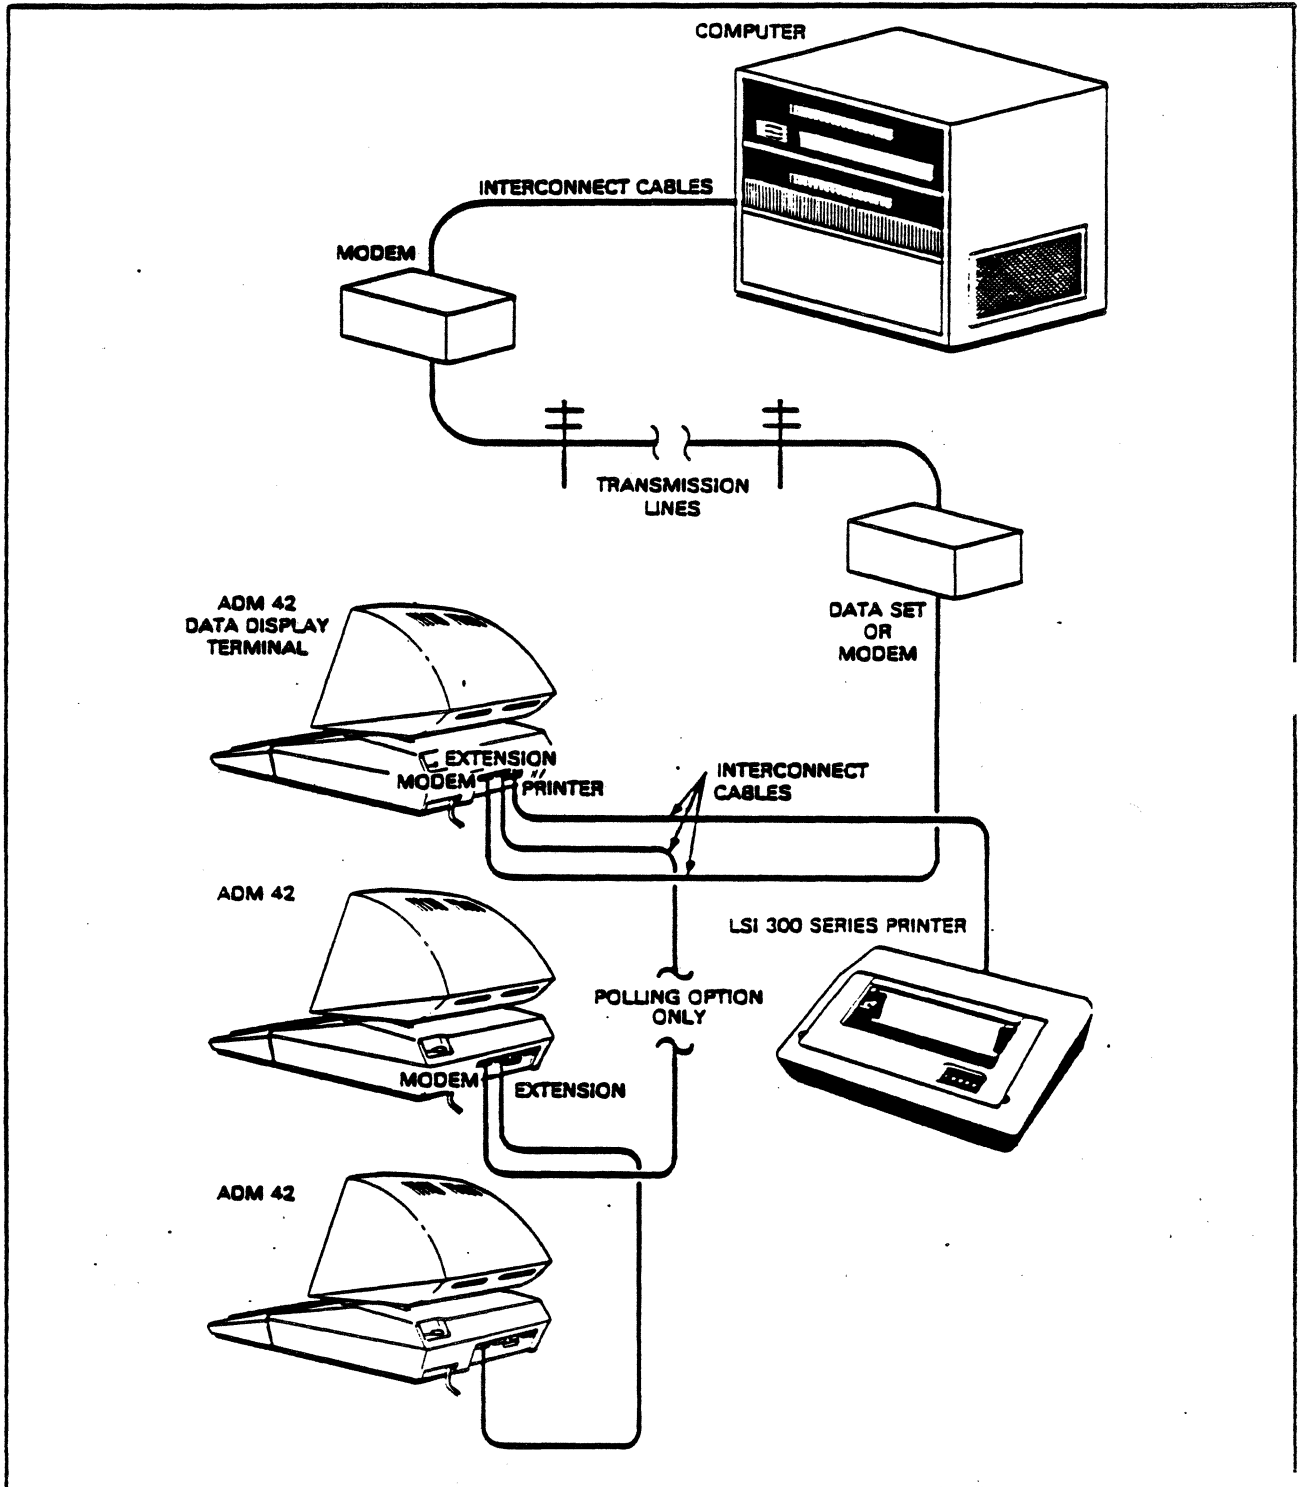
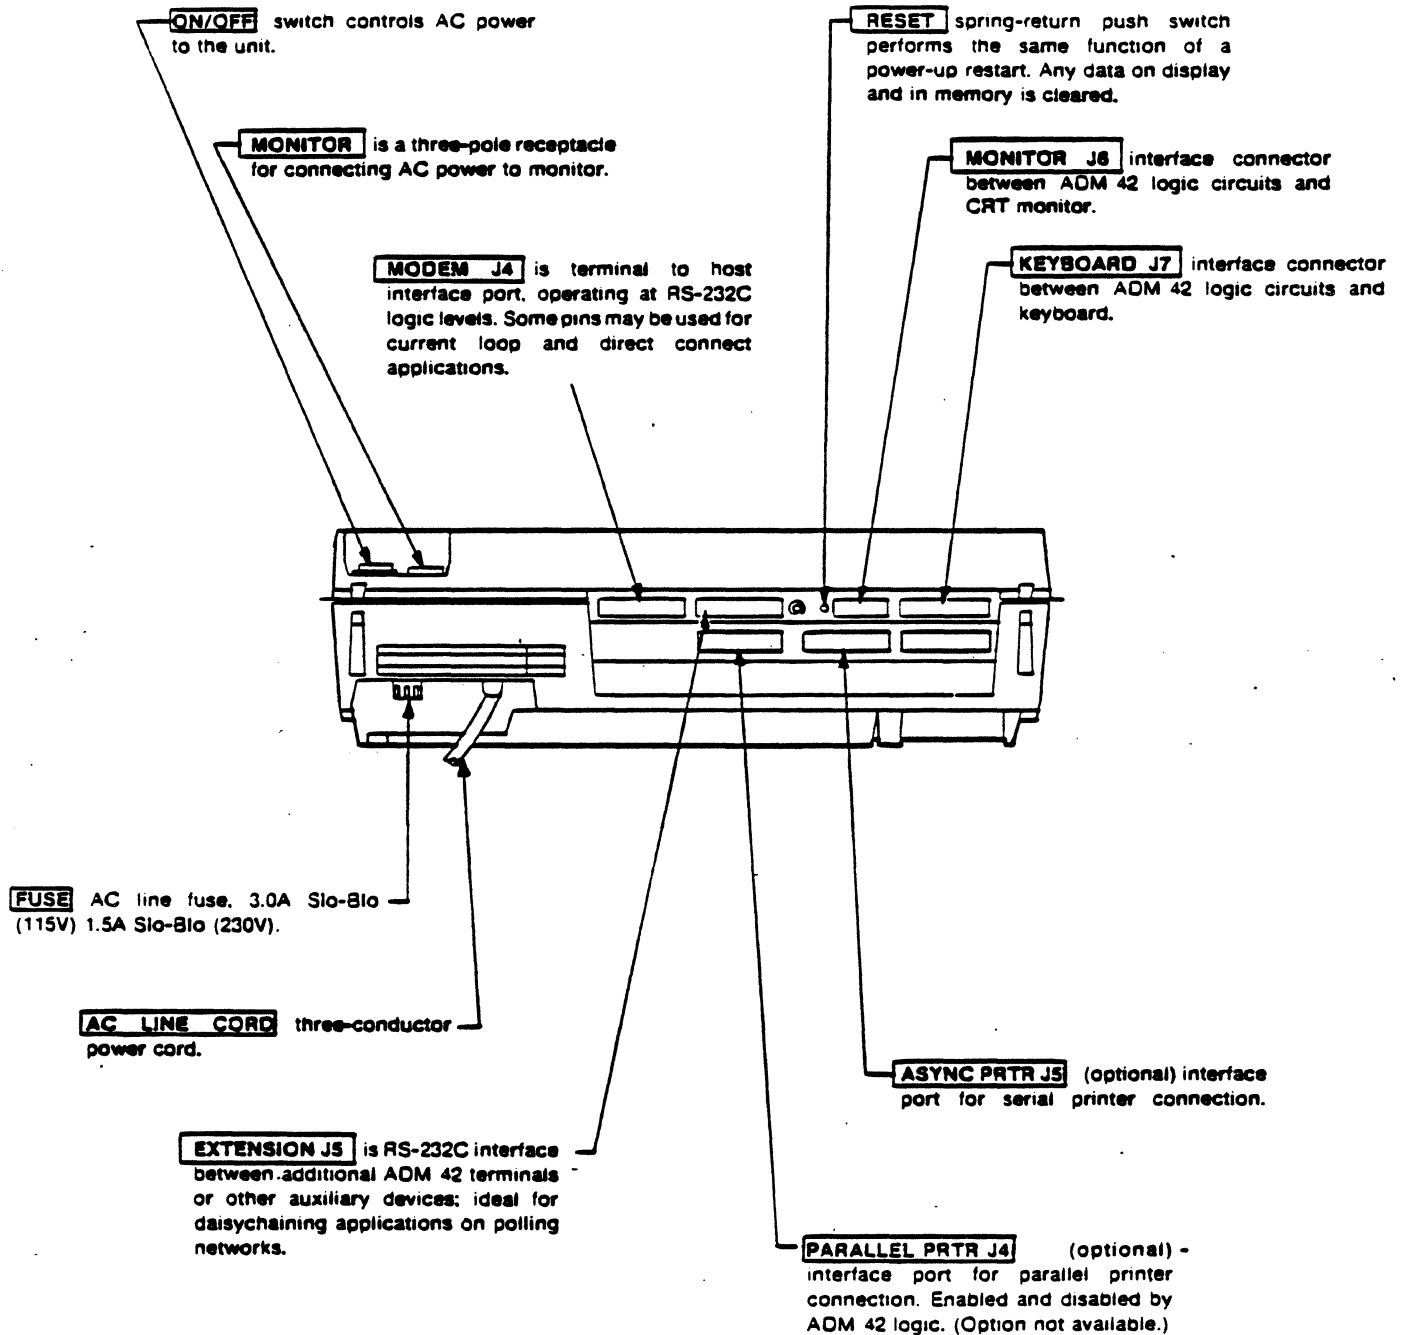

Figure 2-5. Typical ADM 42 Application
Figure 2-6. ADM 42 Rear Panel Controls
The ADM 42 may be cabled directly to a local computer, serial printer, or other auxiliary device; or it may be connected via telephone data lines to a remote computer located anywhere in the world. Remote computer connections require the use of a modem or data set. Figure 2-5 shows a typical ADM 42 application, while figure 2-6 shows the rear panel locations of the interface connectors.
2. Check the ON/OFF switch (figure 2-6) to ensure that it is set to OFF.
1. Set the ON/OFF switch to ON. Blower must be running. (See figure 2-6.)